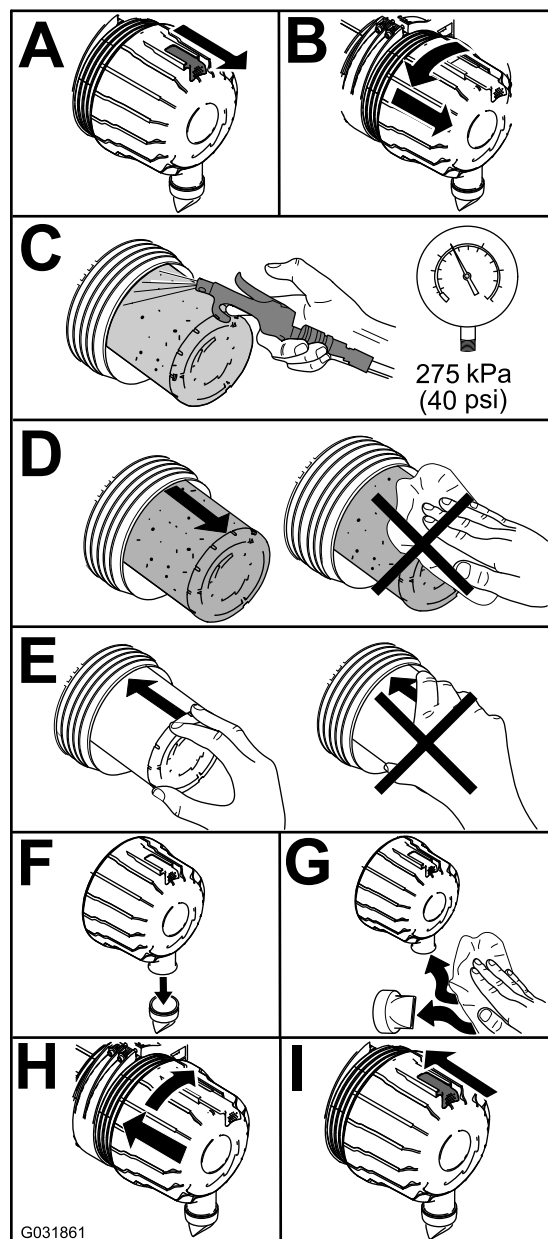

Figure 89
1. Replace the air cleaner (Figure 89).